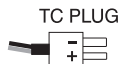

Figure 13. Connections for Outputting Thermocouples
1. Connect the thermocouple leads to the appropriate polarized TC miniplug, and insert the plug into the TC terminals on the calibrator, as shown in Figure 13.